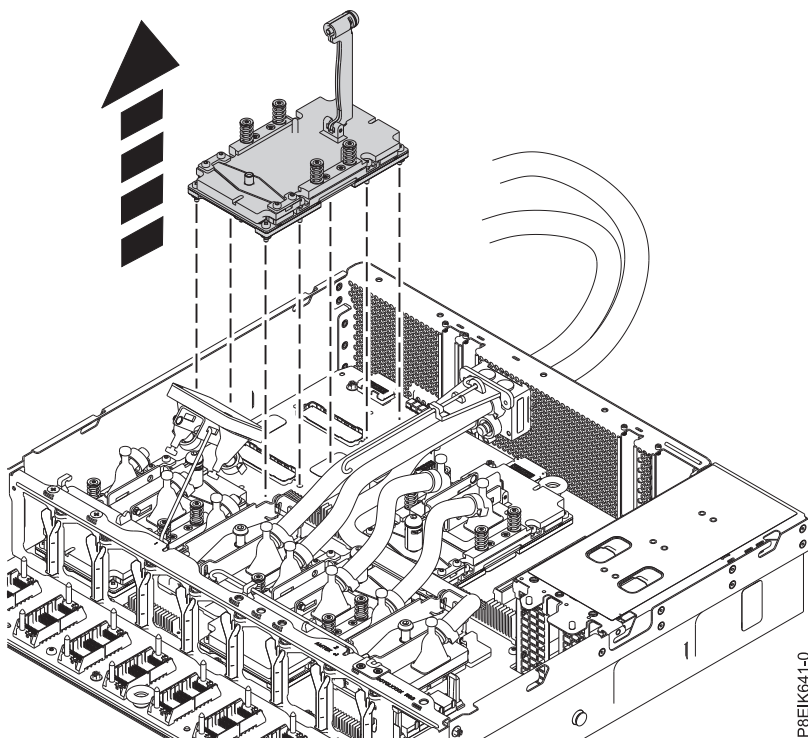

Figure 81. Remove GPU
5. Remove the GPU from the system backplane. Be careful of the pins on the bottom of the GPUs to avoid damaging the pins and the GPU. See Figure 81.